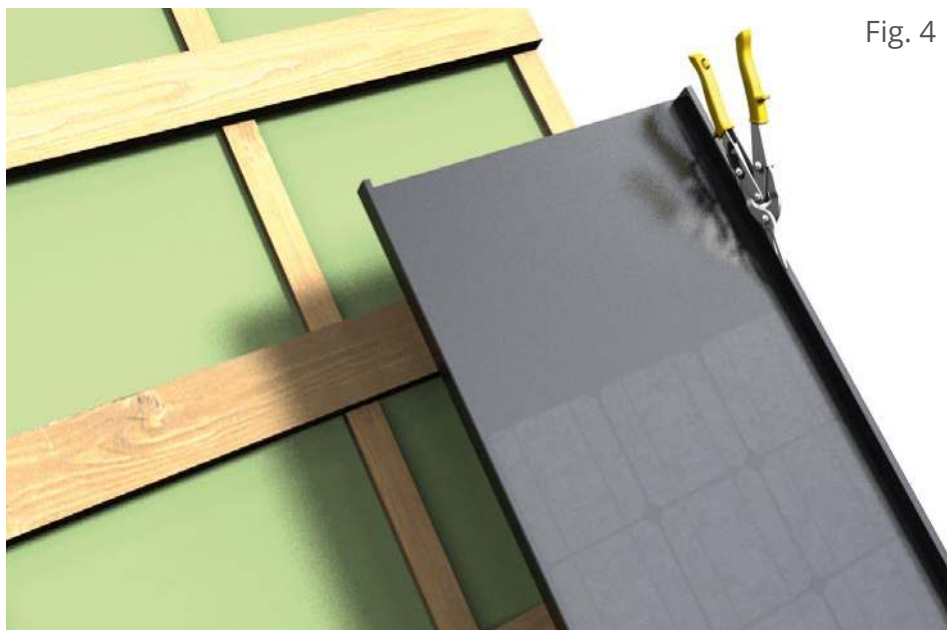

Fig. 4
**2.1 Cutting higher lock** is shown accordingly in Figure 4, 4 a and 4b. Starting from line where the Roofit.solar module overlaps with the next one, the cut should start from outside of the lock with the angle of approximately 30 degrees as it is shown in Figure 4 a, till it reaches the edge. Then, the cut continues perpendicular to module alignment until it reaches the end of upper part of the lock. After that, the cut continues till the upper part of the lock is completely cut out as it is shown in Figure 4 b.
Fig. 4 a
Fig. 4 b